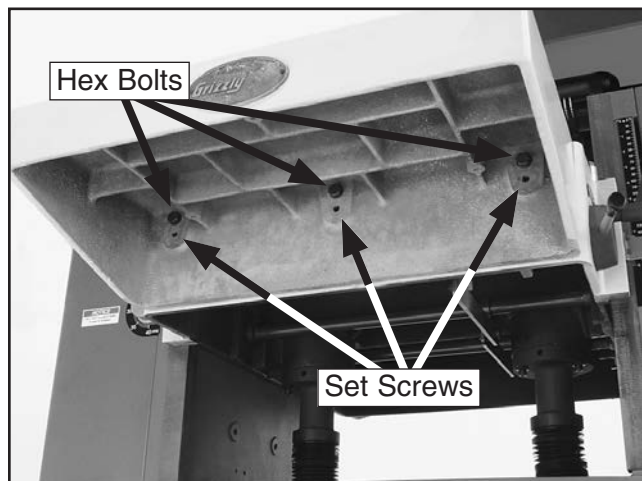

Figure 13. Table extension wing fasteners and leveling set screws.
1. With the help of an assistant, attach the table extension wings to the planer table (see **Figure 13**) with the hex bolts and the flat washers. Hand tighten the bolts for now.
2. Install the set screws (see **Figure 13**) in the holes in the bottom of the wings.